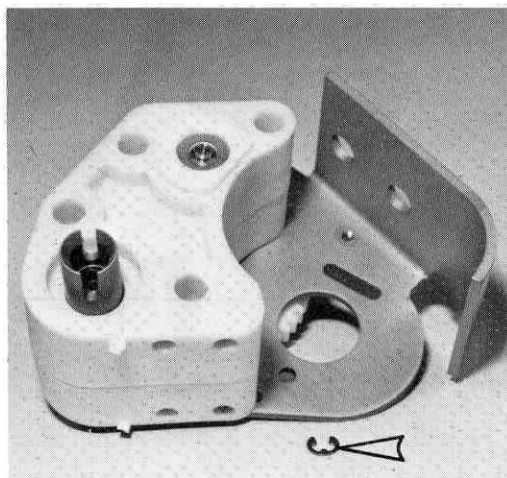

Fig. 90
- ☐ **Fig. 90** Install an "E" clip on the end of the dif shaft.